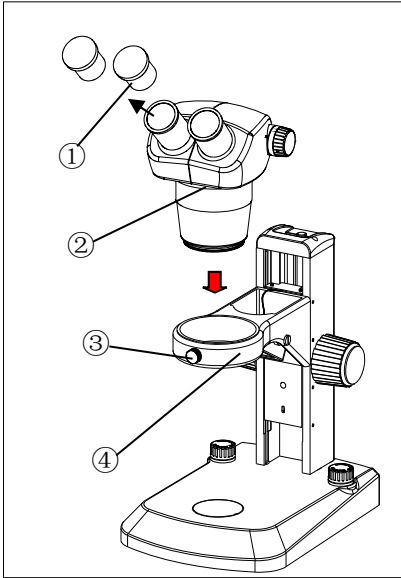
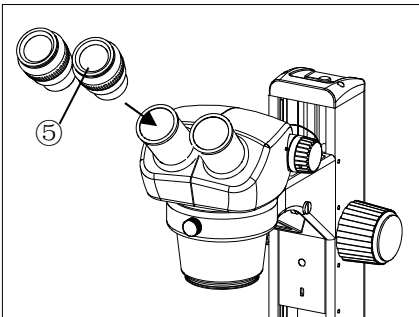
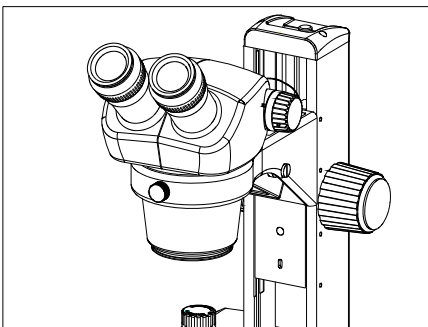

Fig. 1
Fig. 2
Fig. 3
2.2.1 Mounting binocular head (Fig.1)
2.2.2 Mounting eyepieces (Fig.1, Fig.2, Fig.3)
Remove the eyepiece dust caps① and gently insert two adjustable eyepieces ⑤ into the eyepiece sleeves until they stops, as in Fig.3.